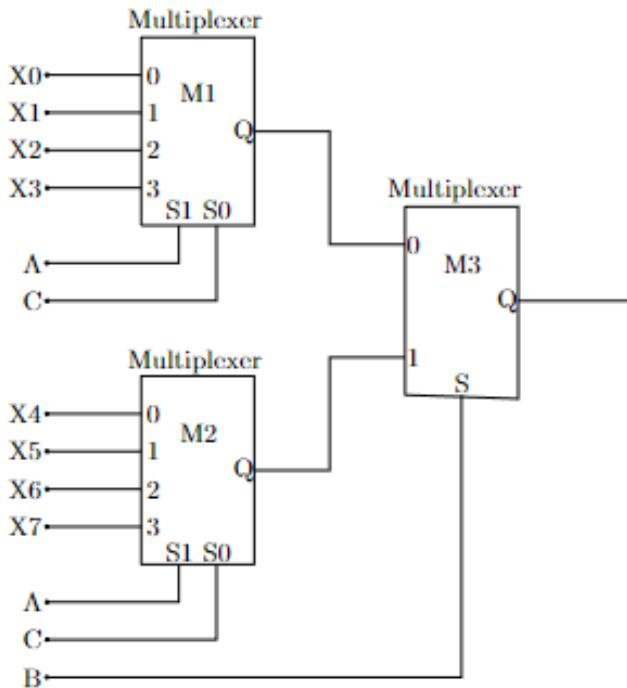

Fig. 3.14: Digital Circuit
- (A)  $\overline{P \oplus Q} = P \odot Q$
- (B)  $\overline{\overline{P} \oplus \overline{Q}} = P \odot Q$
- (C)  $\overline{\overline{P} \oplus \overline{Q}} = P \oplus Q$
- (D)  $(P \oplus \overline{P}) \oplus Q = (P \odot \overline{P}) \odot \overline{Q}$
26. A Boolean digital circuit is composed using two 4-input multiplexers ( $M1$  and  $M2$ ) and one 2-input multiplexer ( $M3$ ) as shown in the Fig. 3.14.  $X_0$ - $X_7$  are the inputs of the multiplexers  $M1$  and  $M2$  and could be connected to either 0 or 1. The select lines of the multiplexers are connected to Boolean variables  $A$ ,  $B$  and  $C$  as shown.